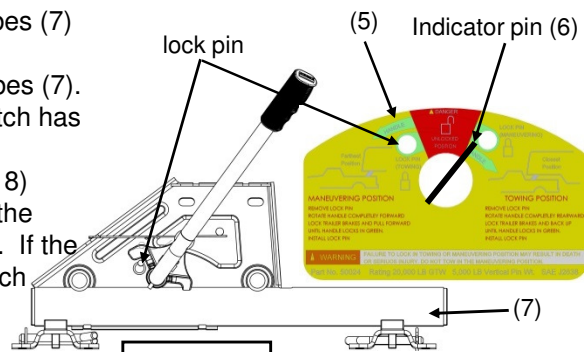

Figure 18
5. Return to truck. Release emergency brake. Manually engage trailer brake and back truck rearward until REESE™ FIFTH Wheel Slider stops near the bolt on foot (Figure 12) and the latch engages in the towing position (see Figure 18).
- B. If Slider does not move, the latch has engaged the tubes (7) and Slider should be engaged in the towing position.
- C. If Slider does move, the latch has not engaged the tubes (7). **DO NOT TOW!**. Repeat steps 1 - 6 above until the latch has engaged the tube (7).
- D. Install lock pin completely in towing hole. (see figure 18)
7. Examine the warning label (5). Indicator pin (6) should now be over the green range on the right side of the warning label (5) (see Figure 18). If the indicator (6) pin is over the red range on the warning label (5), the latch has not engaged the tubes (7).